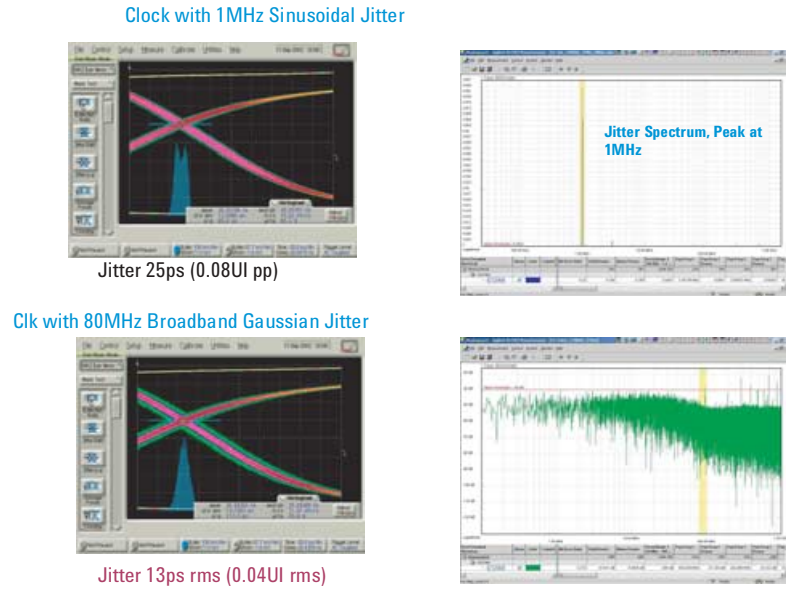

Figure 10: Spectral Decomposition of Jitter
Figure 10 introduces jitter in the frequency domain. This shows a diagram with frequency on the x-axis and power (or power factor) on the y-axis. The graphs show the two jitter components separated for sinusoidal and random. In the histogram there is only a slight difference between the Sinusoidal (DJ) and the Gaussian (RJ) jitter. In the frequency decomposition the sinusoidal jitter is represented as a single line occurring at a single frequency. The random noise shows a wide frequency spectrum up to the bandwidth of the random spectrum (in this case 80 MHz). Above this value, the power decreases down to the noise floor. This kind of representation is possible using a Spectrum Analyzer with a Phase Discriminator. The Phase Discriminator (or Demodulator) de-modulates the signal to obtain the phase modulation signal which is what we see in the figures above. This type of measurement is very common to jitter measurements on SONET devices. However, one has to be aware that this is practical for jitter on a clock signal, but cannot be used for true data signals.